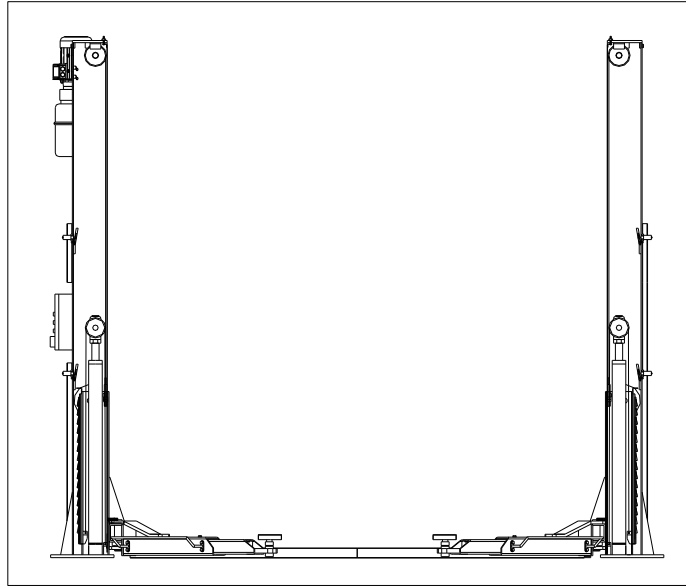

Fig.4
1.1 FIXED STRUCTURE (FIG.4)
1.2 MOVING UNITS (SEE FIG.4)
1.3 LIFT UNIT (SEE FIG.4)